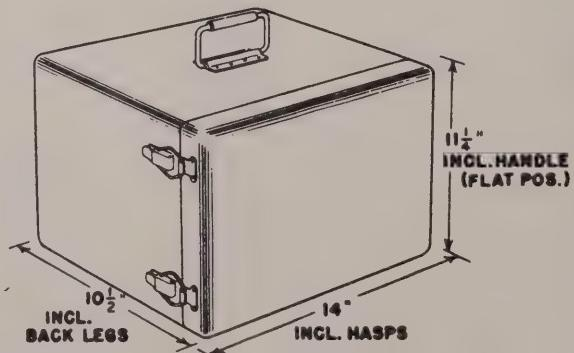

Figure 3-2. RF Signal Generator Set AN/URM-25D
(1) Antenna Simulator SM-35/URM-25, (5:1) Fixed Attenuator CN-223/URM-25D, (10:1) Fixed Attenuator CN-224/URM-25D, Impedance Adapter MX-1487/URM-25D, Test Lead CX-1363/U, Coaxial Adapter UG-201A/U (P801), and instruction book will be found on the inside of the panel cover. An aluminum plate with ferrule clips is provided for mounting these units.
(2) Output cables W104, W105, W106 are also mounted on this aluminum plate.
c. Dimensions of the signal generator are shown in Figure 3-2.